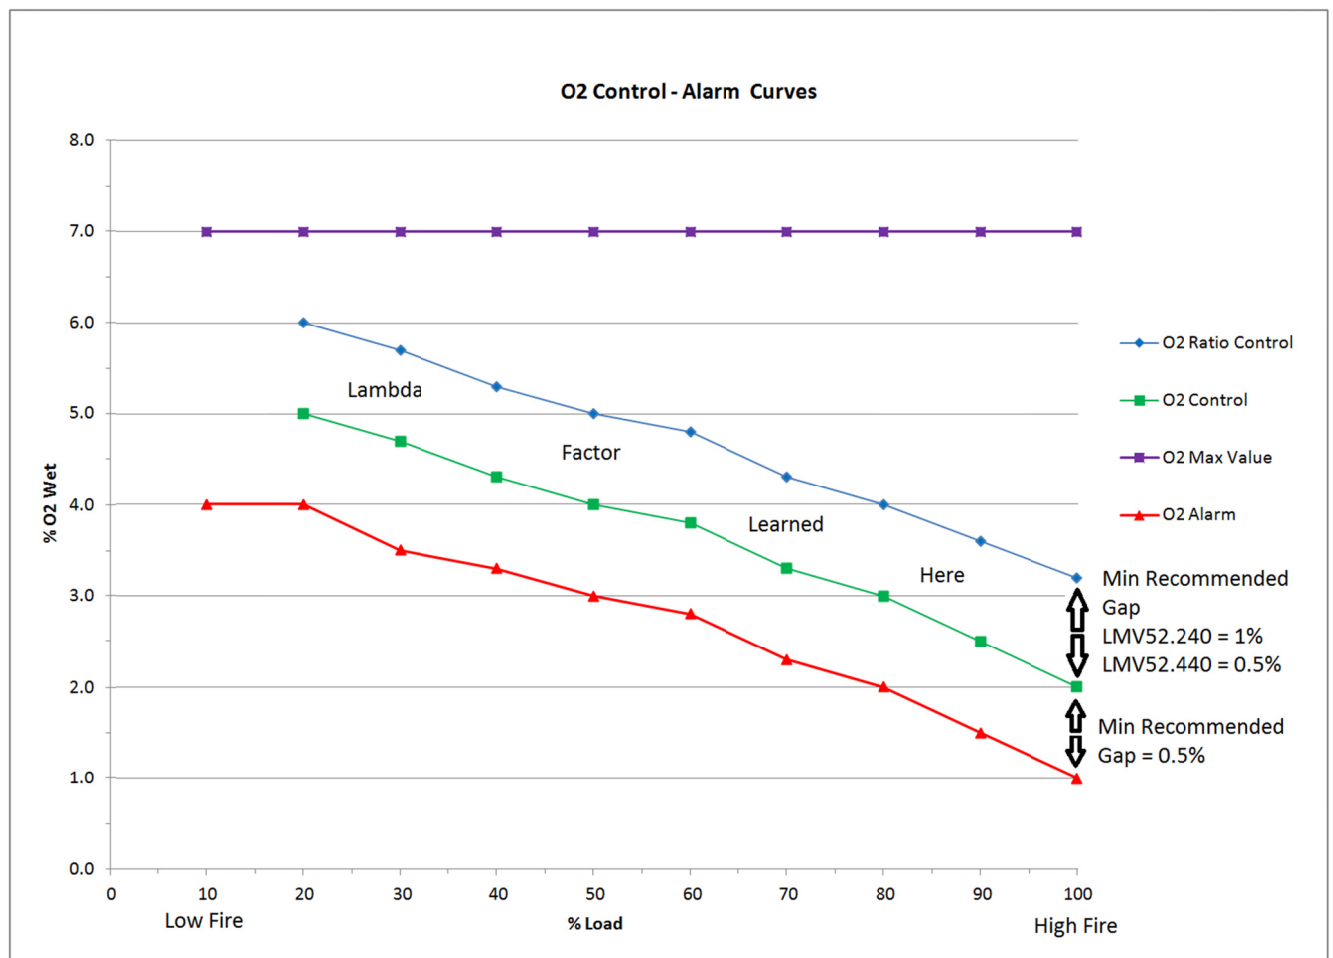

Figure 6-2: O₂ Control and O₂ Alarm Curves
When the O₂ system is commissioned, curves and parameters must be set to define how the system will operate. When set correctly, the curves seen in Figure 6-2 will achieve the following:
As seen in Figure 6-2 above, parameter **O₂ MaxValue** sets the fuel lean boundary for the burner and the O₂ Alarm Curve sets the fuel rich boundary for the burner. These must be set in such a way so that unsafe / unstable operation of the burner is not permitted. However, being too conservative with these boundaries will handicap the system and cause nuisance deactivations of the O₂ trim. General guidelines for these settings will be discussed later in this section. These two curves together set the safety envelope for the burner from a %O₂ standpoint.
8. Set the desired type of pre-control. For most natural gas burners where the gap between O₂ curves is large enough that the Lambda Factor can be learned (see O₂ Control and O₂ Alarm Curves in Figure 6-2), this should be set to "like P air". The "like theory" setting is typically used for oil burners, and "LambdaFact1" should only be used as a last resort. The menu path for setting the type of pre-control is: